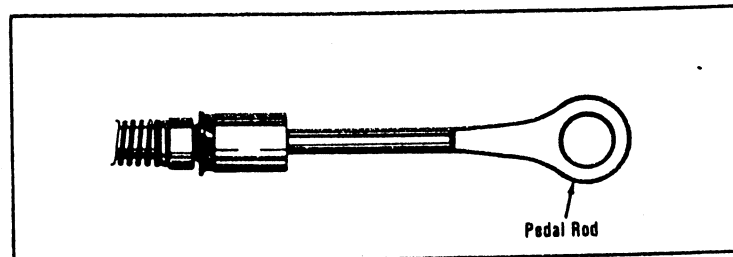

Fig. 3 GROMMETTED PEDAL ROD
- A. GROMMETTED DESIGN (Fig. 3)
3. Note that the holes of the tool are lower on one side. Insert pry bar (or similar tool) from the low side through opening of the tool that aligns with the pedal rod eyelet. Pry upward, shearing grommet and freeing pedal rod. (Fig. 3)